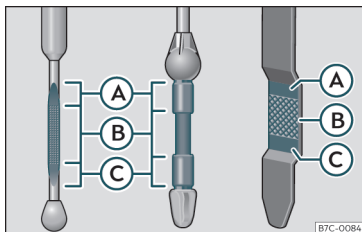

Fig. 202 Engine oil dipstick.
- Then pull it out once more and check the oil level»» **Fig. 202**. Top up with engine oil if necessary.
- When the oil level reaches at least zone »» **Fig. 202 (B)**, unscrew the engine oil filler cap carefully »» ⚠.
If the oil level is above area»» Fig. 202 , do not start the engine. This could result in damage to the engine and catalytic converter. Contact a specialised workshop.
The oil level must never be above zone »» Fig. 202 . Otherwise oil can be drawn in through the crankcase breather and leak into the atmosphere via the exhaust system.